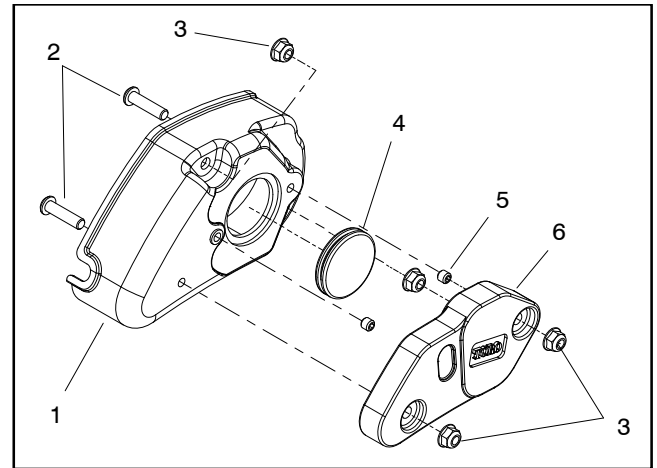

Figure 2
2. Remove two (2) flange nuts that secure groomer cover, then remove cover (Fig. 2).